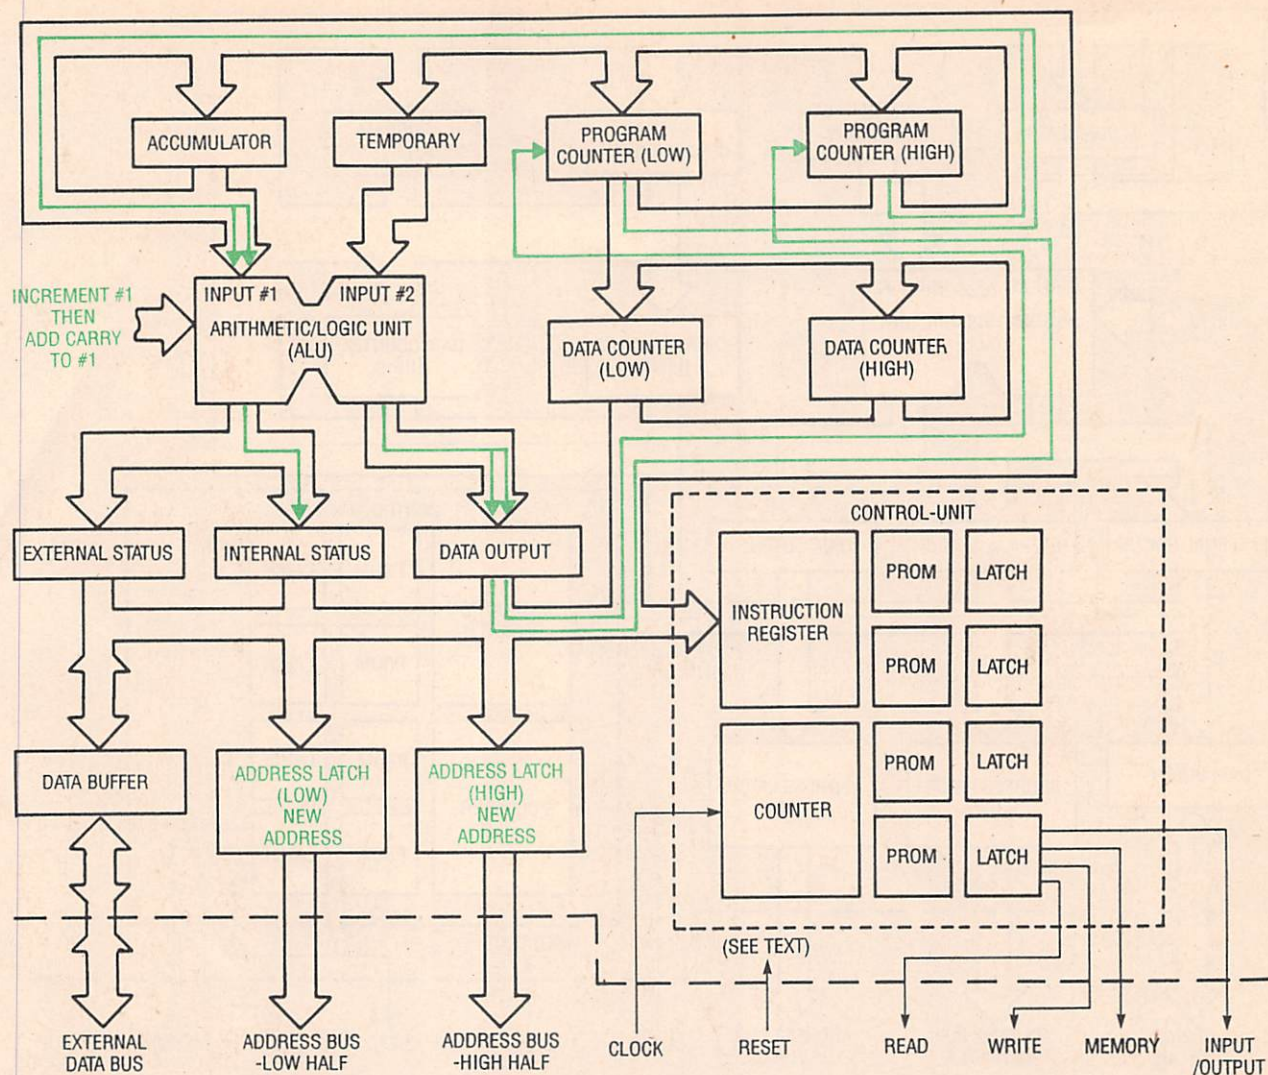

Fig. 2. Between each instruction the microprocessor's control unit must do some housekeeping to ready itself for the next instruction.
**Setting up an Instruction.** The microprocessor must increment the program counter and place the address of the next instruction in the address latches to retrieve the next instruction. That process is shown in abbreviated detail in Fig. 2 and is as follows: The control unit places the low-half of the program counter's data onto the internal data bus, commands the ALU to increment input #1, and latches the results in the data-output register and the internal status register. The internal status register is used because this operation was requested only by the control unit, not the programmer.